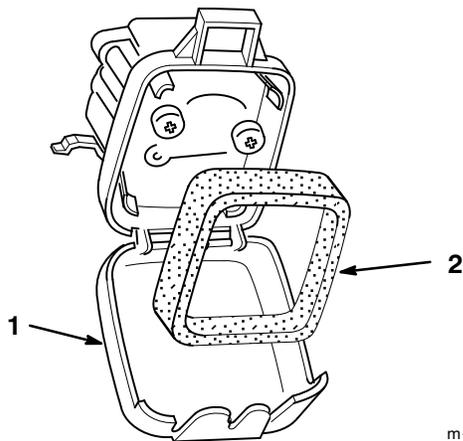

Figure 21
1. Unsnap the air filter cover (Fig. 21).
2. Remove the foam filter (Fig. 21).
5. Reassemble the filter and filter cover (Fig. 21).